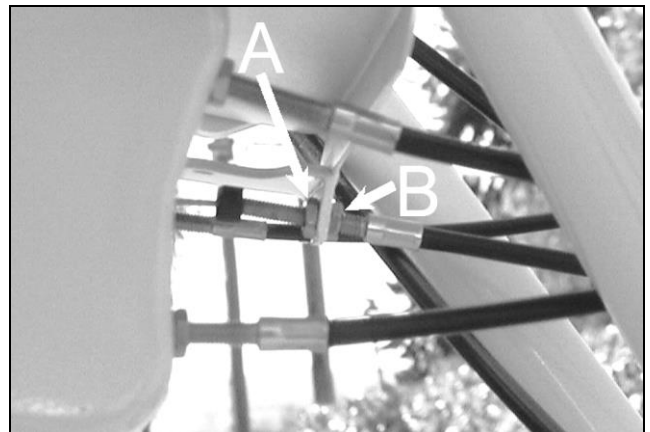

Figure 14
- To increase the tension wire : unscrew the locking screw (A figure 14) and after screw the nut B against the lock nut A. Try the machine again. Perform the adjustment again if needed.
- To loosen the tension wire : unscrew the locking screw (B figure 14) and after screw the nut A against the lock nut B. Try the machine again. Perform the adjustment again if needed.